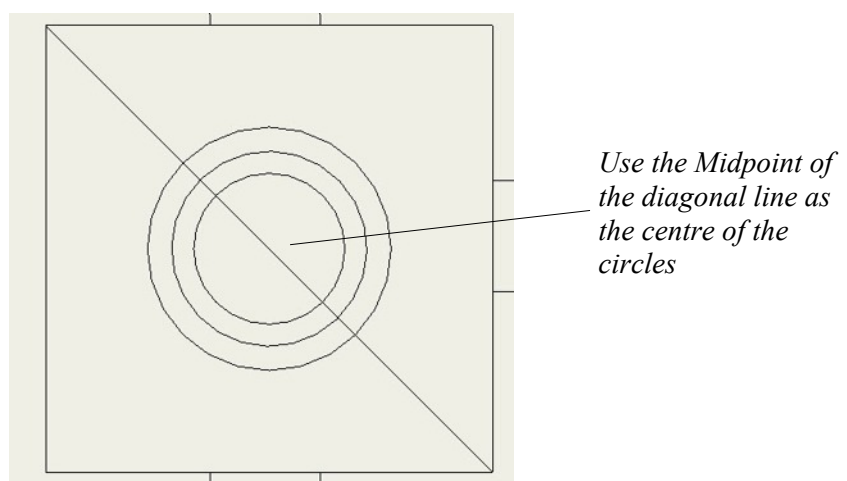

Figure 10. The central plaza with the three concentric circles
- To draw the central plaza area with the pond use the **Rectangle** tool to draw a square as shown in Figure 10. Draw a diagonal line across two of the corners.
- Use the **Circle** tool to drag 3 concentric circles using the Midpoint of the diagonal line as the centre of the circles as shown in Figure 10.